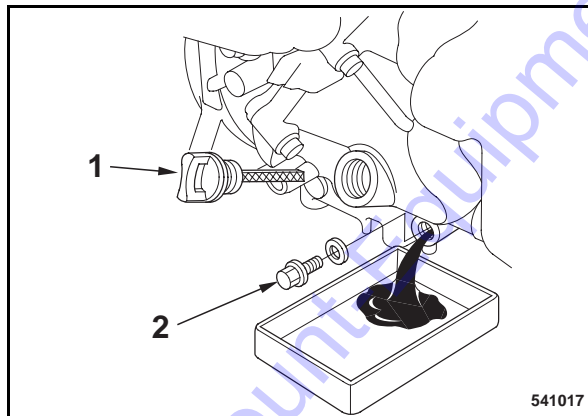

Fig. 33
- Clean the area around oil dipstick (1) (Fig. 33) and drain plug (2).